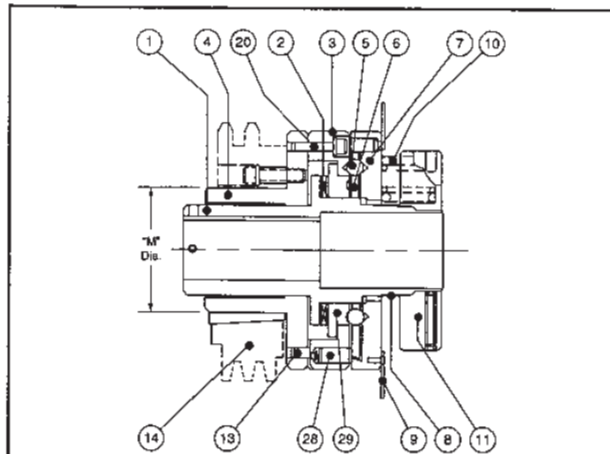

Fig. 3 Model 401
1. Mounting Sprocket or Sheave on Model 401 (see Fig. 3).
A sprocket, sheave, etc., may also be mounted on Model 401 by bolting as shown in Fig. 3. The adapter (4) must be removed for drilling and tapping the mounting holes (Table 1) if they were not ordered with the unit. See Disassembly Procedure, page 5.
Note: Fig. 3, 4, 5A & 5B show typical sprocket in top half of drawing and typical V-belt sheave and timing belt pulley in bottom half of drawing.
See Figs.3,4, 5A, 5B page 2